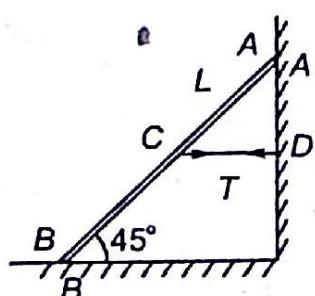

Fig. 9.33
- 9.2** A uniform ladder of length L and weight 100 N rest on a smooth floor and against a vertical wall. A horizontal rope CD prevent the ladder from slipping. Angle of inclination of ladder is 45° . What is tension T (Fig. 9.33)?